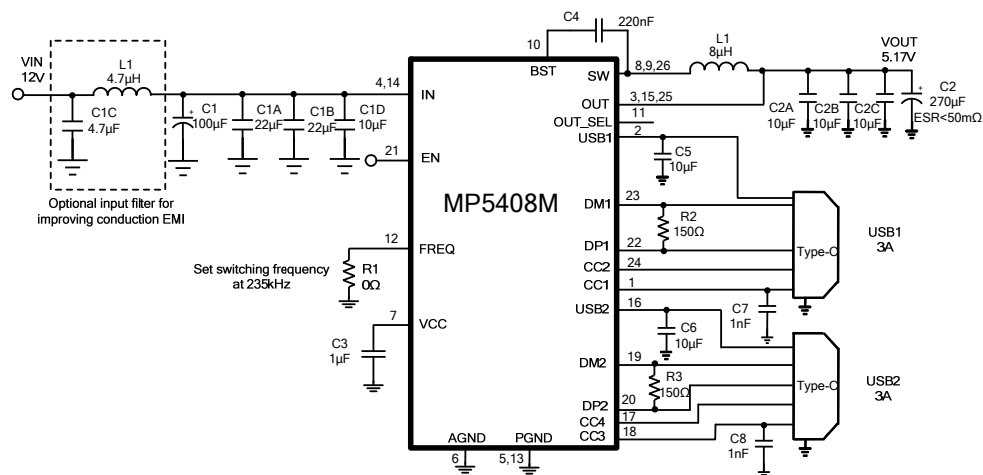
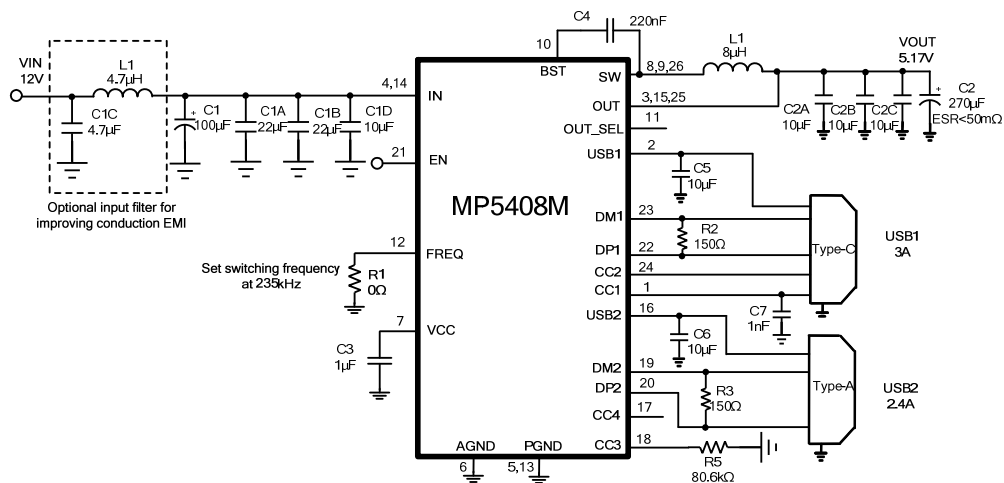

Figure 13: Dual USB Type-C 5V/3A DFP Ports ⁽¹¹⁾
Figure 15: One Type-C 5V/3A DFP Port, One Type-A 5V/2.4A Port ⁽¹¹⁾
- 10) The recommended layout is based on the Typical Application Circuits in Figure 13 through Figure 15.